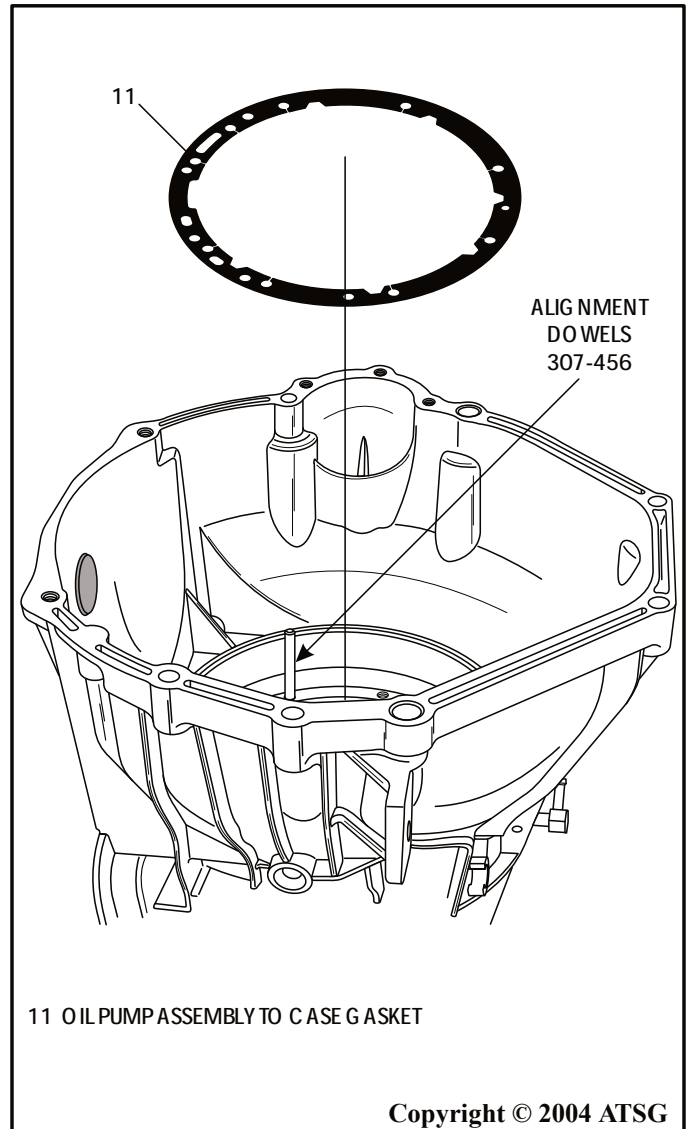

Figure 175
24. Install alignment dowels 307-456, as shown in Figure 175.
25. Install new pump to case gasket over alignment dowels, as shown in Figure 175.